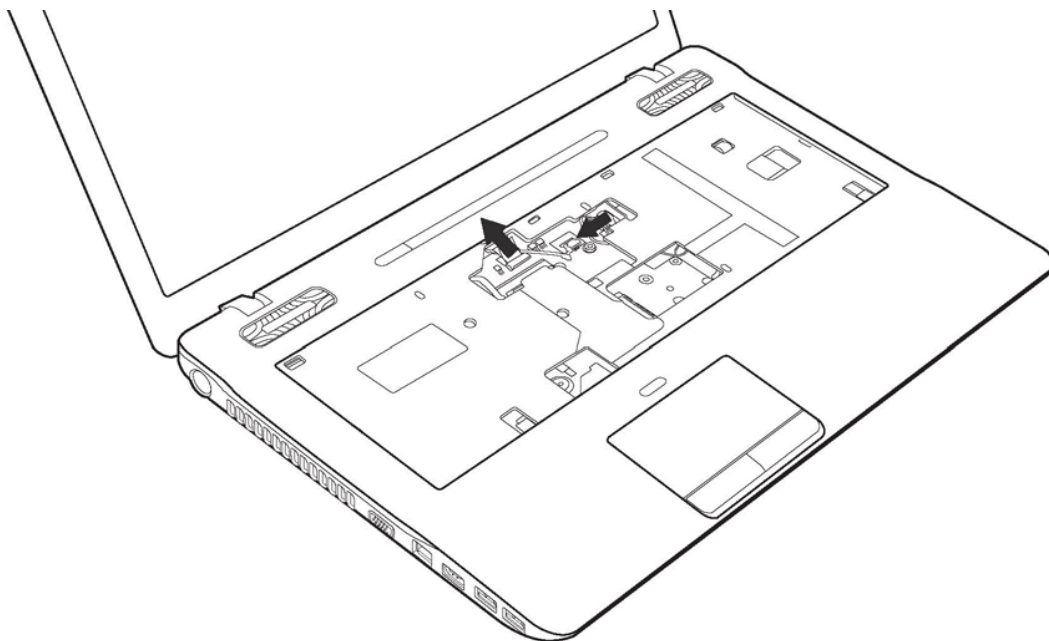

Figure 4-17 Disconnecting touchpad FFC and speaker cable from the motherboard
6. Secure the logic upper assembly with fourteen M2.5x6 and one M2.5x4 screws as indicated in Figure 4-17.